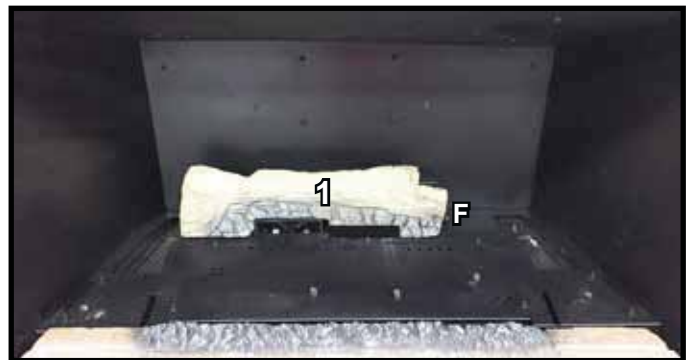

Figure 3. Log #1 Installed
**LOG #1:** With the pilot hood cutout on the left, place the right end of Log #1 against log pin F and then lower it down over the pilot hood. Slide the log back until it contacts the air scoop. See Figure 3.